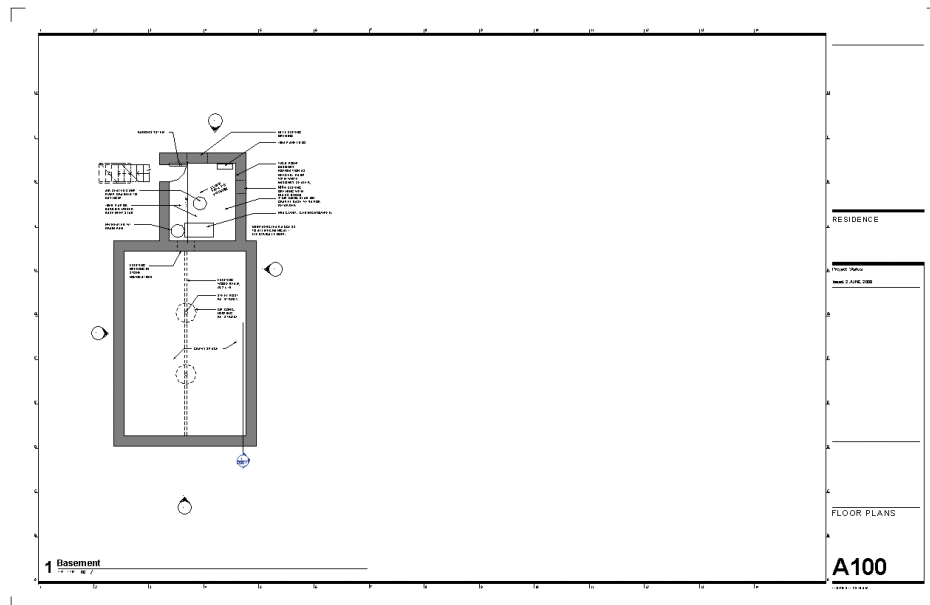

FIGURE 12.16 The view placed on a sheet
3. You can always adjust the location of the view on the sheet (Figure 12.16). The arrow keys on the keyboard are good for nudging the view.